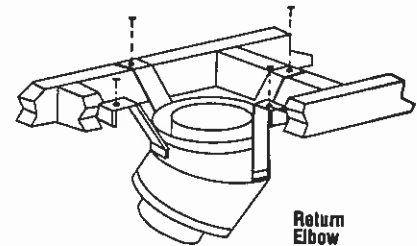

Figure 43
**Step 5.** Secure support straps to framing members by nailing under tension in shear (Figure 43).